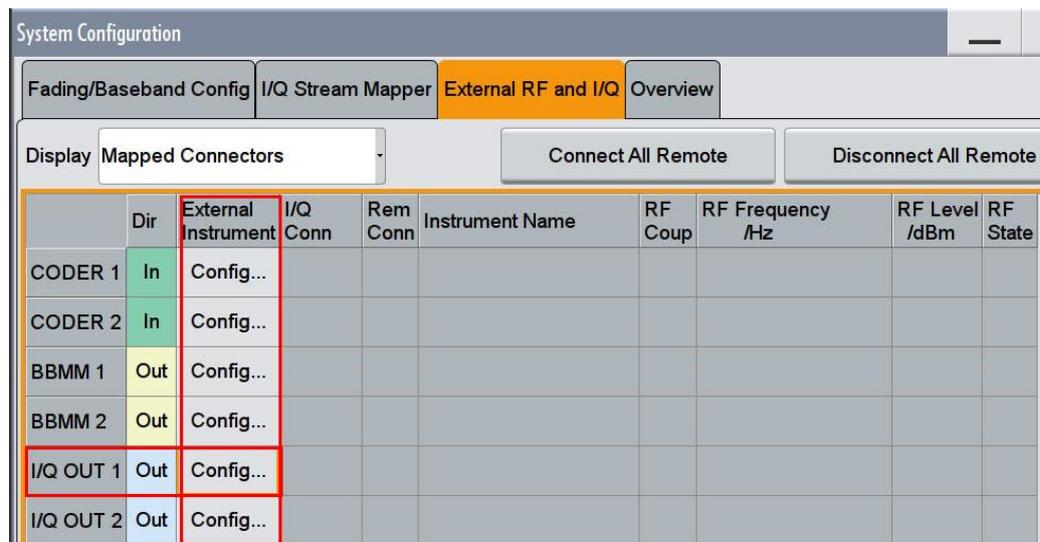

Fig. 3-21: Configuring external instrument at IQ1 Out
2. Click in the row External Instrument in line I/Q OUT 1. (Fig. 3-21)